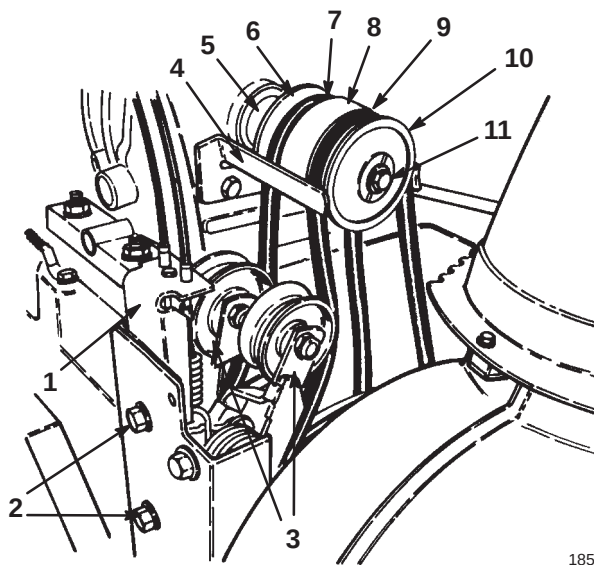

Figure 31
If the auger/impeller drive belt or the traction drive belt (Fig. 31) becomes worn, oil-soaked, or otherwise damaged, replace the belt.
5. Remove the 2 flange bolts that secure the idler pulley assembly to the engine frame and remove the idler pulley assembly (Fig. 31).
6. Remove the bolt and the lock washer that secure the half sheave to the front of the pulley assembly (Fig. 31).
Note: You can remove the belt guide and use a slip-joint pliers or a pipe wrench on the pulley extension (Fig. 31) to hold the crankshaft steady while you perform this step.
7. Slide the half sheave and auger/impeller drive belt off the crankshaft and remove the belt (Fig. 31).
9. If you need to replace the traction drive belt, slide the middle pulley section and the belt off the crankshaft, and remove the belt from the pulley (Fig. 31).
11. Install the traction drive belt around the lower traction pulley and the back sheave, then slide the middle pulley section onto the crankshaft (Fig. 31).
13. Slide the front sheave onto the crankshaft (Fig. 31).
- Note:** You can use a slip-joint pliers or a pipe wrench on the pulley extension (Fig. 31) to hold the crankshaft steady while you perform this step.
16. Install the idler pulley assembly on the engine frame and secure it with the 2 flange-head bolts (Fig. 31).